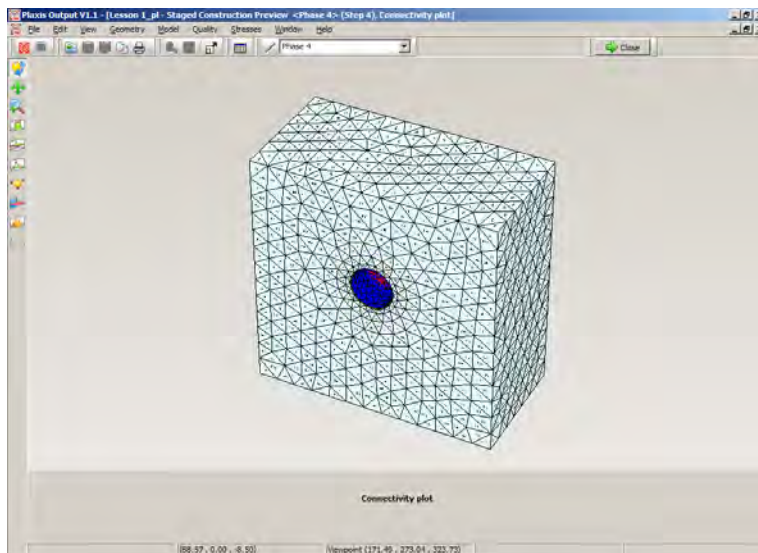

Figure 1.20 Preview of phase 4
- Double click the *Preview / Results* item in the *Phase 4* data tree. Keep the *Mode type* to *Preview* and click the *Output* button. The PLAXIS output program will now be opened, showing a preview of the last calculation phase, see Figure 1.20. It is possible to toggle between all calculation phases by selecting the appropriate option from the *Displayed step* combo box to check the preview of all phases.